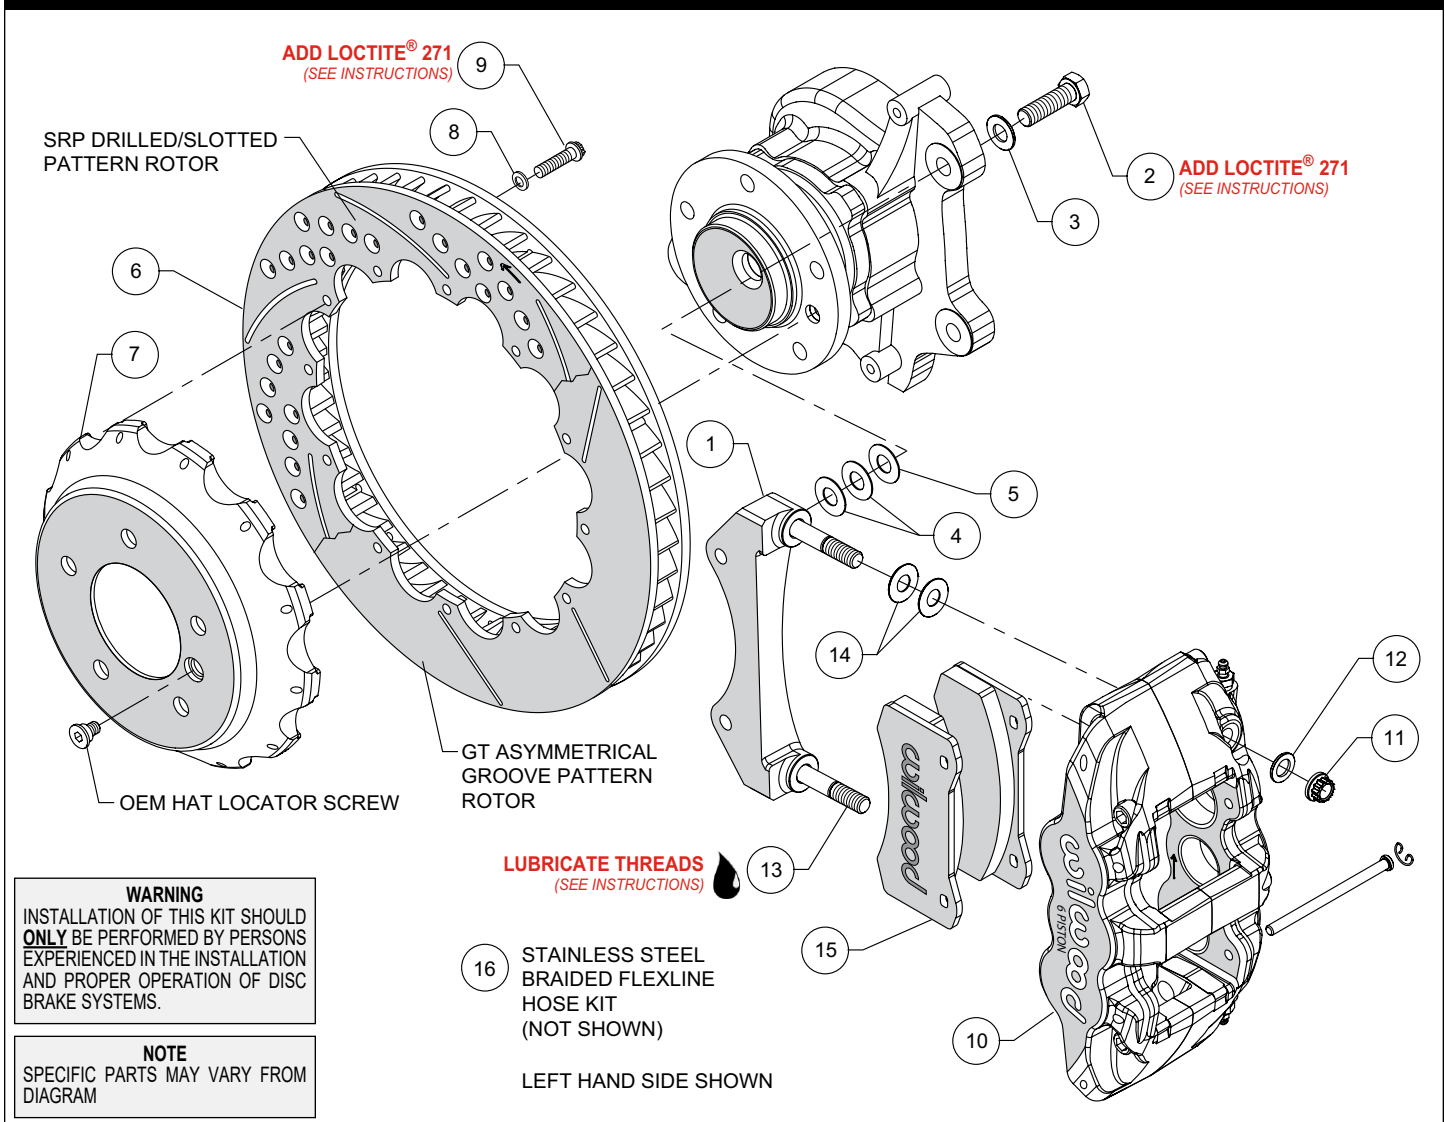
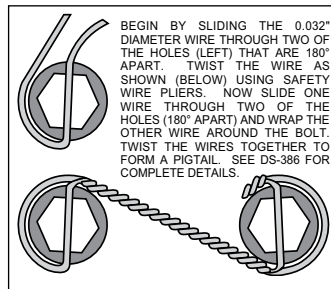

Figure 1. Typical Installation Configuration
Figure 3. Safety Wire Diagram
Assembly Instructions (numbers in parenthesis refer to the parts list and Figure 1 on the preceding pages):
- The caliper mount bracket (1) should initially be installed with clean, dry threads on the mounting bolts. Orient the bracket as shown in Figure 1, and Photo 1. Install bracket using mount bolts (2), and washers (3). Initially place two .033" thick shims (4), on each bolt between the bracket and upright, Figure 1. Temporarily tighten the mounting bolts. **NOTE: The bracket must fit squarely against the mount bosses on the upright.** Inspect for interference from casting irregularities, machining ridges, burrs, etc. Later, after the caliper alignment has been checked, the mount bolts will be secured using red *Loctite*® 271.
- Orient the rotor (6) and the hat (7) as shown in Figure 1 and Photo 2. Attach rotor to hat using bolts (9) and washers (8). Apply red *Loctite*® 271 to the bolt threads and torque to 155 in-lb using a criss-cross pattern. For an added measure of security, the bolts may be safety wired using standard 0.032 inch diameter stainless steel safety wire as shown in Figure 3. Please refer to Wilwood's data sheet DS-386 (available at www.wilwood.com/Pdf/DataSheets/ds386.pdf) for complete safety wire installation instructions.
- **NOTE: This kit contains distinct right and left hand calipers that must be mounted in a specific direction, as described below.** Lubricate the caliper mounting studs (13) with lightweight oil. Initially place two .030" thick shims (14) on each stud as shown in Figure 1 and Photo 4. Mount the caliper (10) onto the bracket (1) using lock nuts (11) and washers (12), Figure 1. Ensure that the caliper is mounted so that the largest pistons are at the rotor exit end of the caliper, in relation to the direction of rotor rotation. Temporarily tighten the lock nuts and view the rotor through the top opening of the caliper. The rotor should be centered in the caliper, Photo 5. If not, adjust by adding or subtracting shims (4 and/or 5) between the bracket and the upright. Always use the same amount of shims on each of the two mounting bolts. Once the caliper alignment is correct, remove the bracket mounting bolts one at a time, apply red *Loctite*® 271 to the threads, and torque to 60 ft-lb.
- Remove the two pad retaining pins from the caliper by carefully popping out the pin retaining clips and sliding out the pins. Insert the brake pads (15) into the caliper from the bottom, Figure 1, and Photo 6, with the friction material facing the rotor and secure the brake pads in place with the pad retaining pins and clips, Photo 7. Reinstall the caliper onto the caliper mounting bracket and temporarily tighten the lock nuts. Check that the top of the brake pad is flush with the outside diameter of the rotor, Photo 8. If not, adjust by adding or subtracting shims (14) between the caliper and the bracket. After the caliper pad height is set, torque the caliper lock nuts (11) to 47 ft-lb.